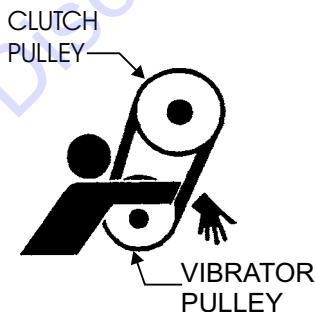

**Figure 27. Engine Air Filter and Element**
1. The air filter element (Figure 27) should be cleaned because a clogged air cleaner can cause poor engine starting, lack of power and shorten engine life substantially.
2. To clean or replace air filter loosen the wing nut on the air filter housing (Figure 27) remove the cover and take out air filter cartridge. If only cleaning of the air filter is desired blow through the air filter cartridge from the inside, moving a jet of dry compressed air up and down until all dust is removed.